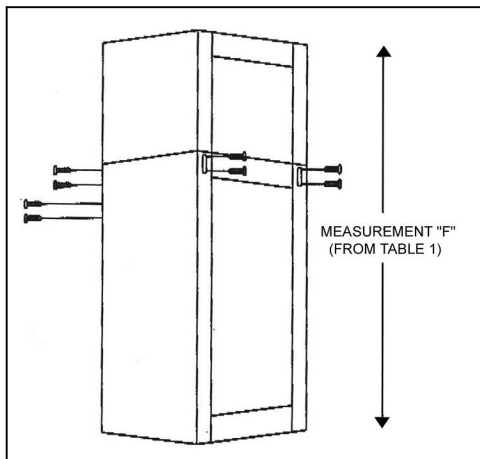

Figure 4
5. Adjust the telescopic stack using reference **F** calculated in Table 1 and measurements on page 12. Tighten from the side with eight (4x8 mm) screws (provided) as shown in Figure 4.